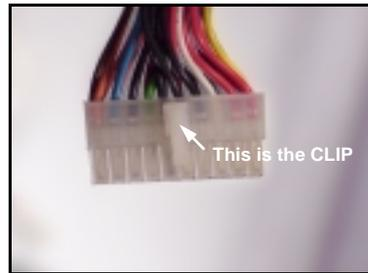

Figure 2.4a*
Step 1 Shown on the right, in **Figure 2.4a**, is the 20-pin connector of the ATX power supply.